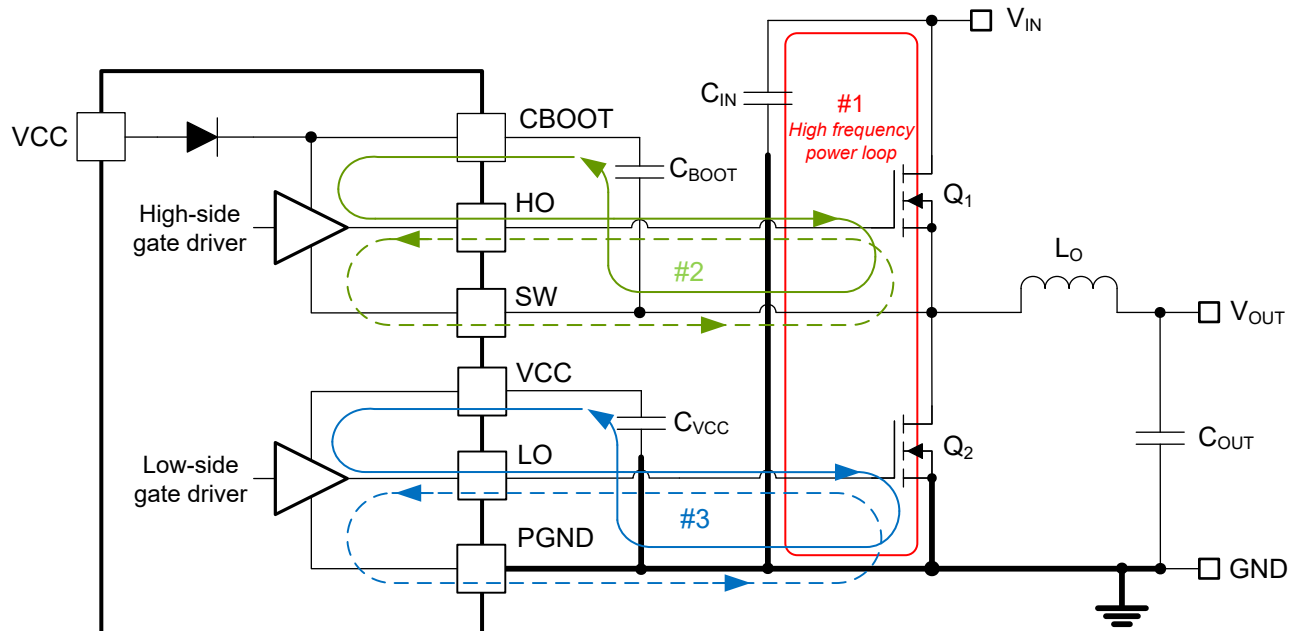

Figure 7-22. DC/DC Regulator Ground System With Power Stage and Gate Drive Circuit Switching Loops
Proper PCB design and layout is important in a high-current, fast-switching circuit (with high current and voltage slew rates) to achieve a robust and reliable design. As expected, certain issues must be considered before designing a PCB layout using the LM25139. The high-frequency power loop of a buck regulator power stage is denoted by loop 1 in the shaded area of Figure 7-22. The topological architecture of a buck regulator means that particularly high di/dt current flows in the components of loop 1, and reducing the parasitic inductance of this loop by minimizing the effective loop area becomes mandatory. Also important are the gate drive loops of the high-side and low-side MOSFETs, denoted by 2 and 3, respectively, in Figure 7-22.
- Loop 1: the most important loop area to minimize is the path from the input capacitor or capacitors through the high- and low-side MOSFETs, and back to the capacitor or capacitors through the ground connection. Connect the input capacitor or capacitors negative terminal close to the source of the low-side MOSFET (at ground). Similarly, connect the input capacitor or capacitors positive terminal close to the drain of the high-side MOSFET (at VIN). Refer to loop 1 of Figure 7-22.
5. The SW pin connects to the switch node of the power conversion stage and acts as the return path for the high-side gate driver. The parasitic inductance inherent to loop 1 in Figure 7-22 and the output capacitance (C_{OSS}) of both power MOSFETs form a resonant circuit that induces high frequency (greater than 50MHz) ringing at the SW node. The voltage peak of this ringing, if not controlled, can be significantly higher than the input voltage. Make sure that the peak ringing amplitude does not exceed the absolute maximum rating limit for the SW pin. In many cases, a series resistor and capacitor snubber network connected from the SW node to GND damps the ringing and decreases the peak amplitude. Provide provisions for snubber network components in the PCB layout. If testing reveals that the ringing amplitude at the SW pin is excessive, then include snubber components as needed.
- Loop 2: high-side MOSFET, Q_1 . During the high-side MOSFET turn-on, high current flows from the bootstrap (boot) capacitor through the gate driver and high-side MOSFET, and back to the negative terminal of the boot capacitor through the SW connection. Conversely, to turn off the high-side MOSFET, high current flows from the gate of the high-side MOSFET through the gate driver and SW, and back to the source of the high-side MOSFET through the SW trace. See also "loop 2" of Figure 7-22.
- Loop 3: low-side MOSFET, Q_2 . During the low-side MOSFET turn-on, high current flows from the VCC decoupling capacitor through the gate driver and low-side MOSFET, and back to the negative terminal of the capacitor through ground. Conversely, to turn off the low-side MOSFET, high current flows from the gate of the low-side MOSFET through the gate driver and GND, and back to the source of the low-side MOSFET through ground. See also "loop 3" of Figure 7-22.